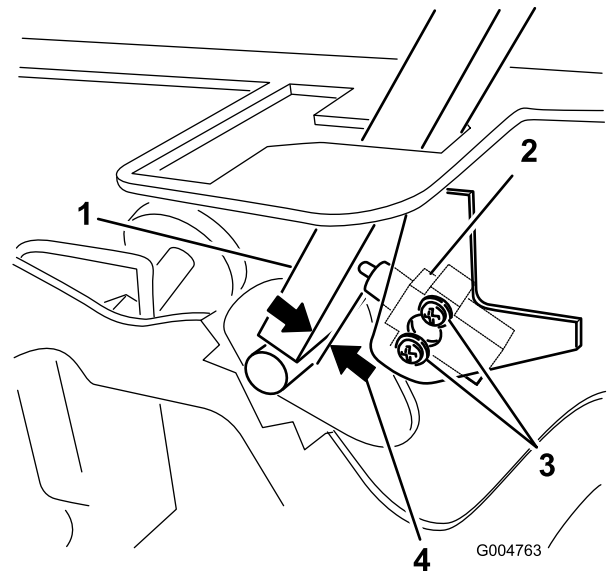

Figure 48
3. Loosen the 2 screws securing the interlock switch (Figure 48).
4. Holding the control lever against the frame, move the switch toward the lever until the distance between the lever and switch body is 0.4 to 1 mm (0.015 to 0.045 inch) as shown in Figure 48.